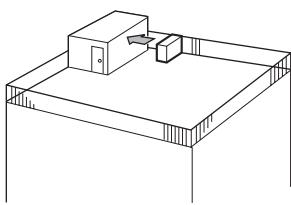

Fig. 2-3
- (1) Face the air outlet towards the nearest available wall about 500 mm, 19-11/16 inches away from the wall. (Fig. 2-3)